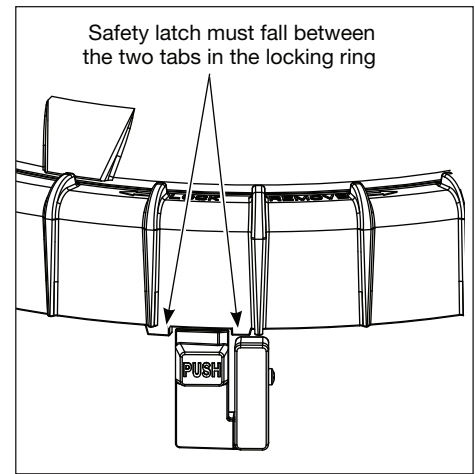

Figure 8 - Safety latch: locked position
8. Secure the locking ring by turning it clockwise until the safety latch clicks into place (approximately 1/2 turn). The latch should fall between the two tabs on the ring (Figure 8). The ring may be slightly loose, but it will tighten when the pump turns on. If the locking ring will not fully engage the latch, turn it counter-clockwise to remove the top assembly and return to step 2, ensuring the cartridge is properly seated and the O-ring is lubricated and properly seated.